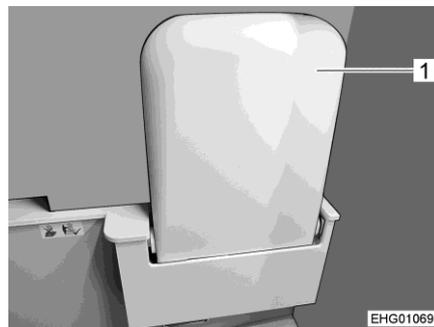

Fig. 108 Wash basin (folded upwards)
- Grab the wash basin (Fig. 108,1) by the front edge and swing it upwards towards the wall until it is magnetically fixed.